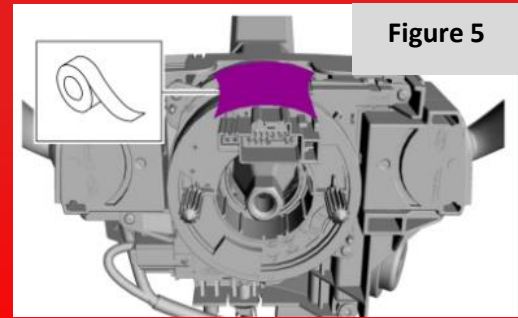

Figure 5
Be sure when removing the steering wheel to confirm that it's in the 12 o'clock position. Lay a wide piece of tape connecting the clock spring to the column as seen in **Figure 5** on the next page to prevent the clock spring from moving and to retain function during reinstallation.
22. Feed the wiring from the steering column back through the steering wheel, similar to how they came out in Step 4. Remove the tape on the clockspring that was installed in Step 4 and **Figure 5** to stop the clockspring from moving during the install process.